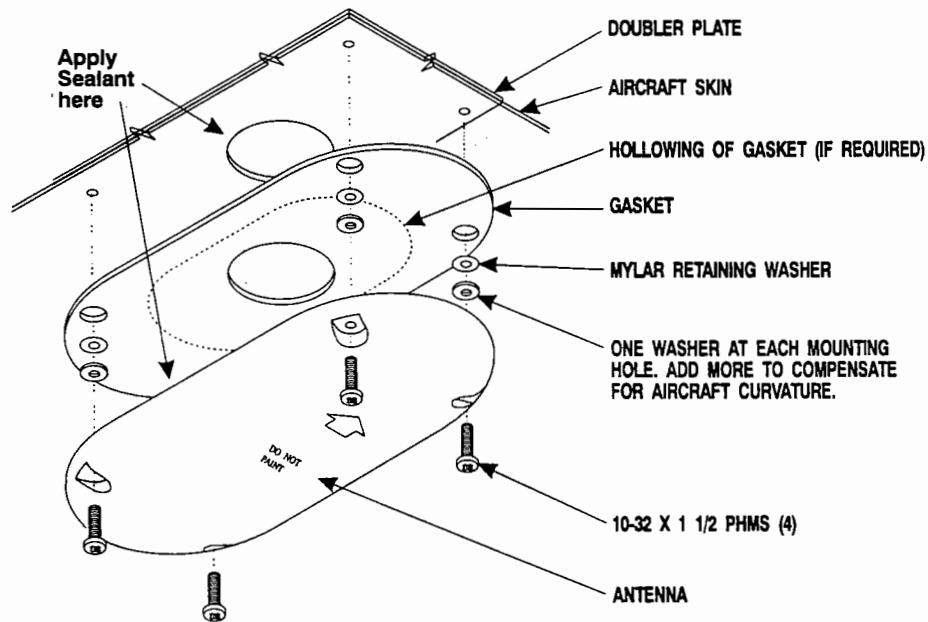

Figure 2-16. Antenna Installation
The antenna and gasket are designed to mount to a flat, or large radius convex surface. For smaller radius contours, it may be necessary to hollow out the gasket to relieve stress in the center of the antenna (the area within the dashed line in figure 2-16). Spacers are provided to allow for compensation of the gasket thickness and for aircraft skin contour. (See Figure 2-16.)
1. Mount the antenna to the aircraft as shown in Figure 2-16.